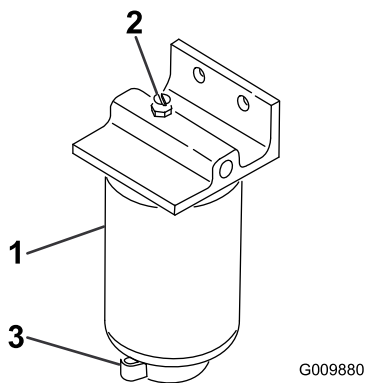

Figure 53
3. Loosen the drain valve on the bottom of the filter canister (Figure 53).
2. Clean the area where the filter canister mounts (Figure 53).